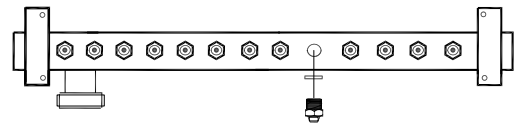

Fig. 50
**7.11 TO REMOVE/REPLACE THE INJECTORS (fig. 50).**